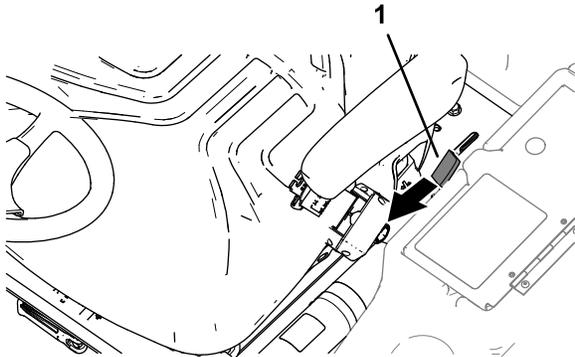

Figure 48
1. Move the platform-latch handle (Figure 48) towards the front of the machine until the latch hooks clear the locking bar.